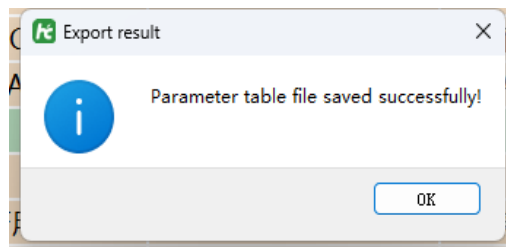

Figure 2-13
- 8) After successful saving, a dialog box as shown in Figure 2-13 will appear.